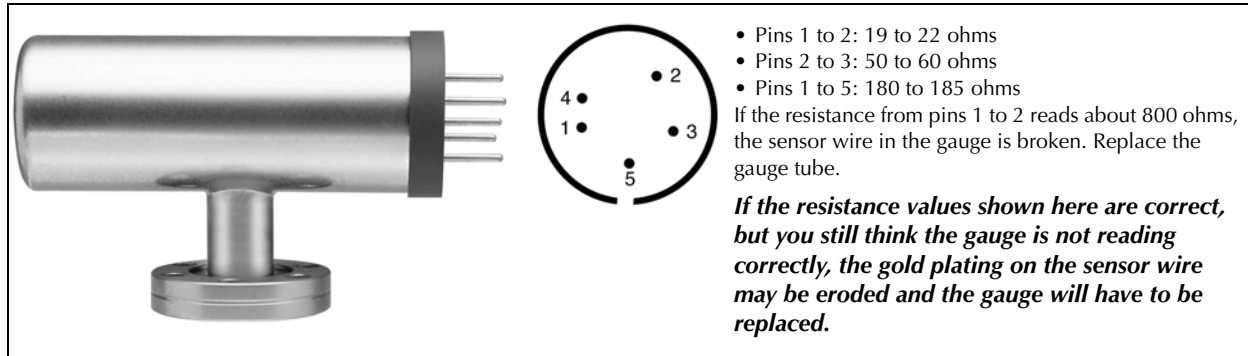

Figure 6-4 Convectron Gauge Connector and Resistance in Ohms
2. Use a *low-voltage (maximum 0.1 V) ohmmeter* to check resistance values across the pins on the base of the gauge. Pin numbers are embossed on the base. Figure 6-4 illustrates the base of the gauge.
The Convectron Gauge should show the resistances listed in Figure 6-4. Pin numbers are embossed on the blue plastic pin feed-through of the gauge. Measure the resistance across the pins with the gauge at atmospheric pressure, using an ohmmeter that will not apply more than 10 mA.